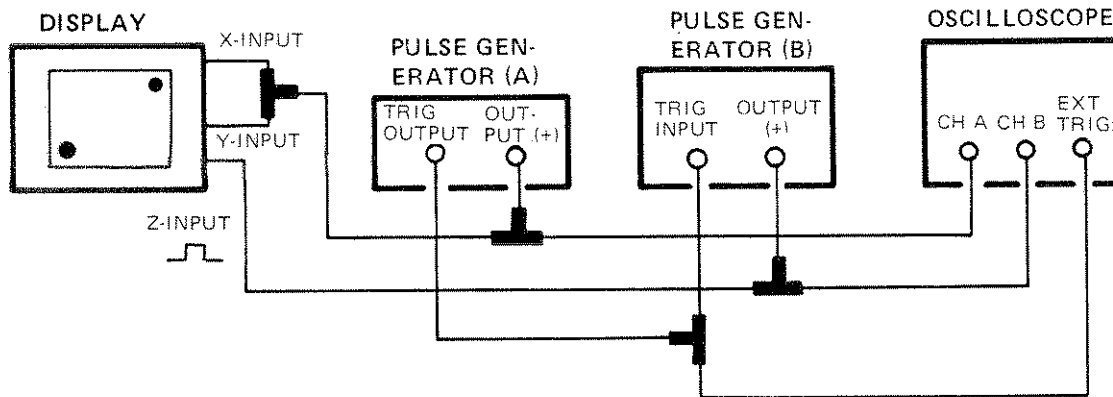

Figure 4-5. Diagonal Settling Time Test Setup
- a. Connect equipment as shown in figure 4-5.
- b. Set pulse generator (A) as follows:
- c. Adjust pulse generator (A) AMPLITUDE to position two spots on diagonal corners of 1340A CRT. Position and Gain controls of 1340A may require adjustments for proper positioning of the spots.
- d. Set pulse generator (B) as follows: